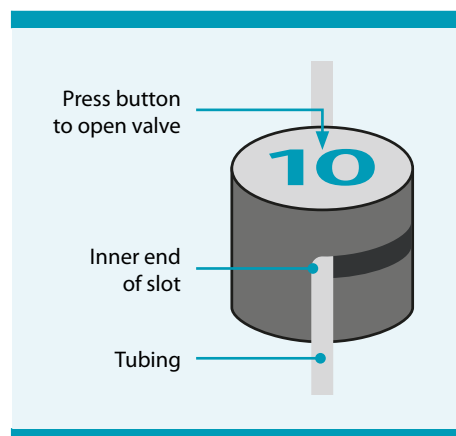
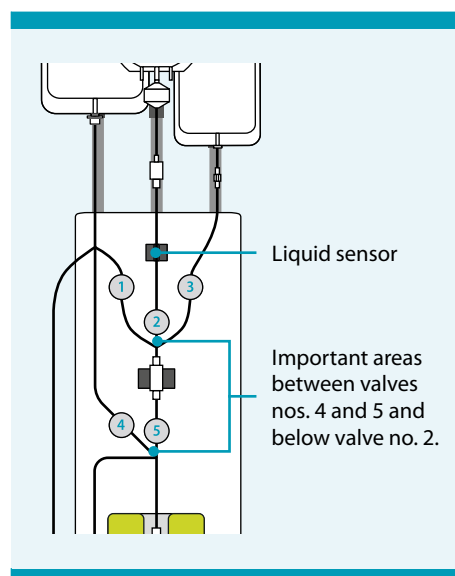

Figure 7.5: Correctly inserted tubing
Figure 7.6: Tubing in valves
- *If the tubing has to be adjusted after a valve has been closed, do not pull the tubing without pressing the valve button to open the valve (see Figure 7.5).*
1. Load the tubing into valve no. 4. Confirm that the tubing is placed securely in the valve opening (see Figure 7.5). Pay particular attention to the area between valves nos. 4 and 5 (see Figure 7.6) and keep the four-way fitting upright.
Note: Check all valves for proper tubing insertion. Make sure that the tubing is spaced uniformly, and that there are no kinks or stretched areas in the tubing. Pay particular attention to the pre-column area, as well as the area between the pump and valves nos. 7 and 8 (see Figure 7.8) and between valves nos. 4 and 5 (see Figure 7.6). If the tubing has to be adjusted after a valve has been closed, do not pull the tubing without pressing the valve button to open the valve. If a tubing has been adjusted, it is absolutely necessary to press the corresponding valves firmly two times.